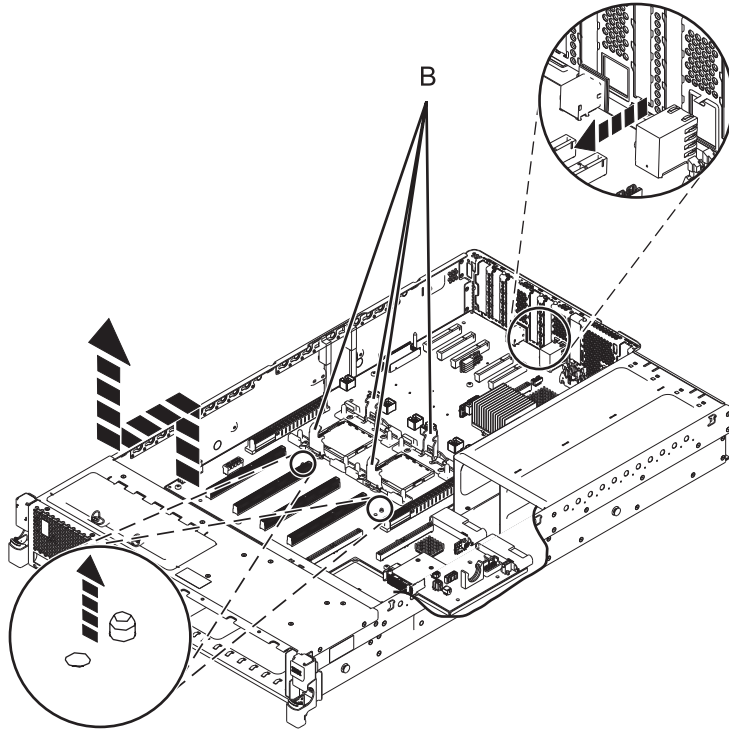

Figure 9. Removing the system backplane
- b. Grip the system backplane by both heat sink load arms (**B**). See Figure 9 on page 13.